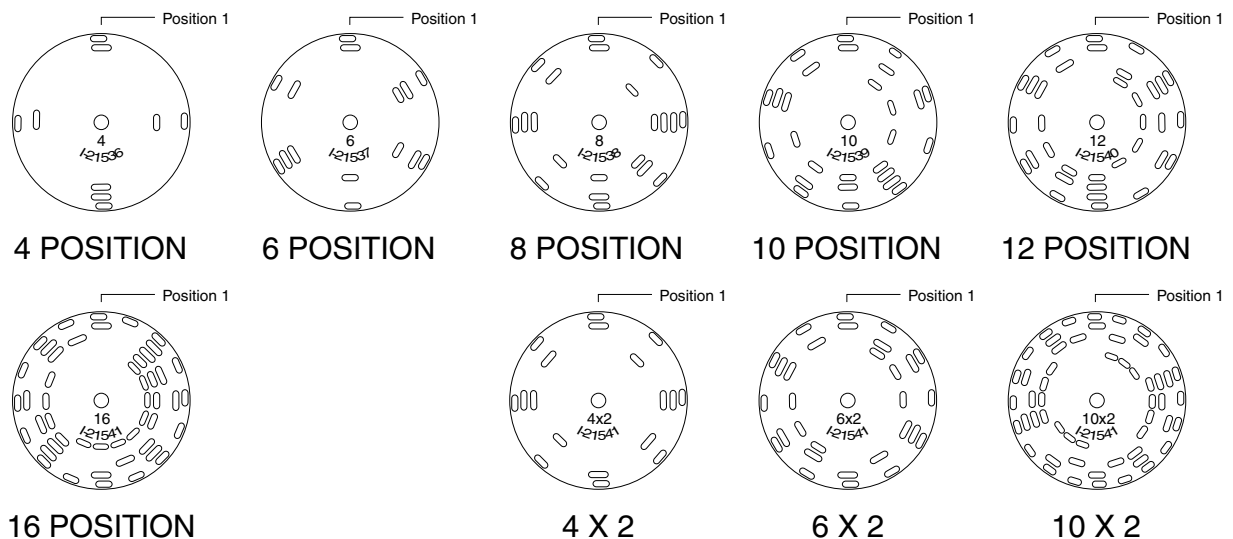

Figure 8: Encoder discs
1. Using **Figure 8** and the preceding description, identify the slot on the replacement encoder disc which determines Position 1. With the motor toward you and the casting away, install the new encoder disc oriented as in **Figure 8**, with the strobe bit of Position 1 vertical. (The part number should be facing you. In the case of the “x 2’s”, either Position 1 bit may be vertical.) Be sure to use the correct number of washers between the disc and shaft, so that the disc is positioned midway between the emitter and the encoder boards.
- 1 Reinstall the encoder disc with the same point at 12 o'clock but with its opposite face out. If there is any question about the orientation of the disc, refer to **Figure 8**. But remember that once Position 1 has been located according to that illustration, the disc must be flipped over (on an axis from 12 o'clock to 6 o'clock, so that the opposite face is out) to function properly when the direction of the motor is reversed.